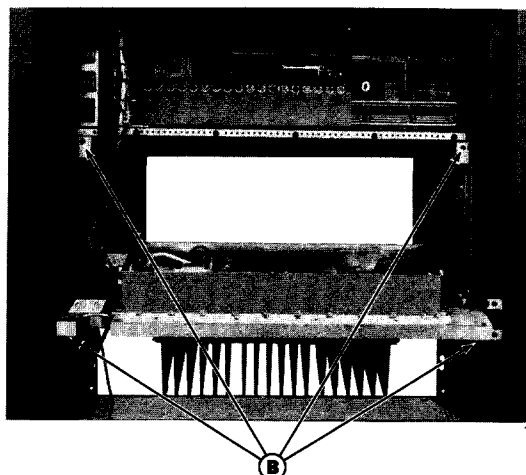

Figure 5 - Access to Power Amplifier
1. Remove the top two screws (B) on the Intermittent or Continuous Duty Power Amplifier. Refer to Figure 5.